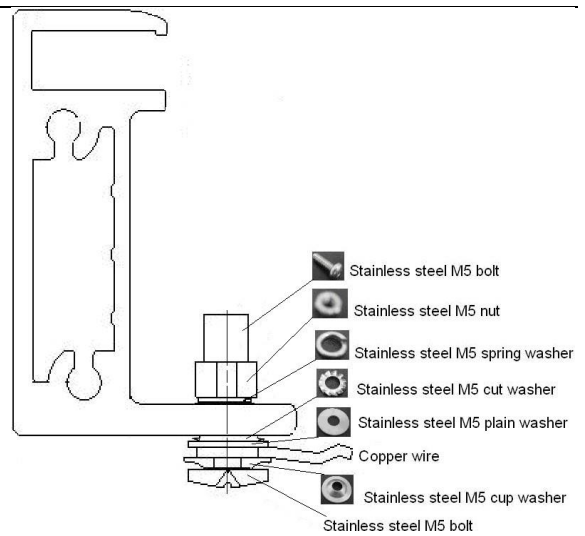
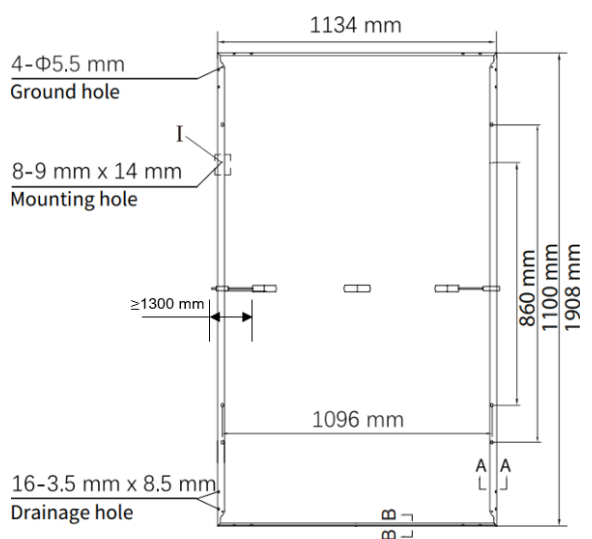

Fig. 15 Grounding the aluminum frame with copper wire
Fig. 16 Grounding hole location on panel frame
The PV modules are designed with an anodised, corrosion-resistant aluminum alloy frame as a rigid support. To ensure safety and to avoid lightning strikes and electrostatic damage to the PV modules, the PV module frame must be earthed. The earthing device must be in full contact with the interior of the aluminum alloy of the frame, penetrating the surface oxide film. The following is the specific grounding method, as shown in Fig. 15.
- Use the marked 5.5 mm grounding holes to ground the anodized frame. Use one M5 nut, two M5 cut washers, one M5 plain washer, one M5 spring washer, and one M5 bolt and the copper wire. All nuts, bolts, and washers shall be of type M5 and made of stainless steel (Fig. 15). Grounding hole location on the panel frame is shown in Fig. 16 below.